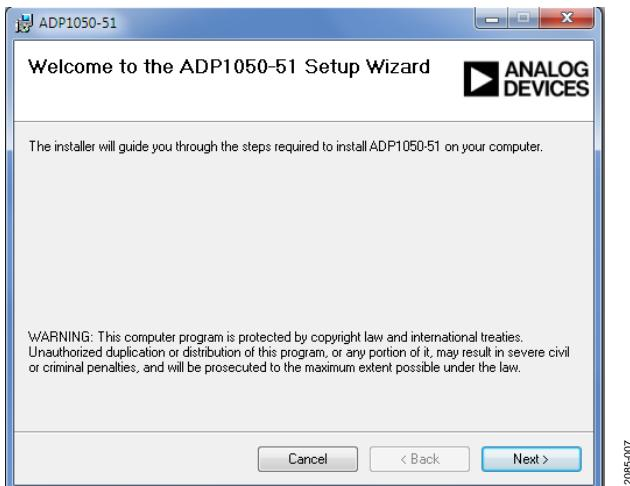

Figure 7. GUI Installation
3. Follow the prompts in subsequent windows (see Figure 7) to install the software.